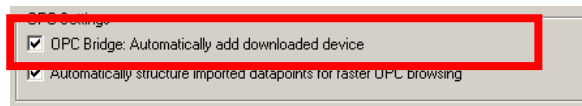

Figure 148: Enable bridge export in the project settings
- In the Configurator menu go to **Settings** → **Project settings** This opens the project settings dialog on the tab **General** as shown in Figure 148.